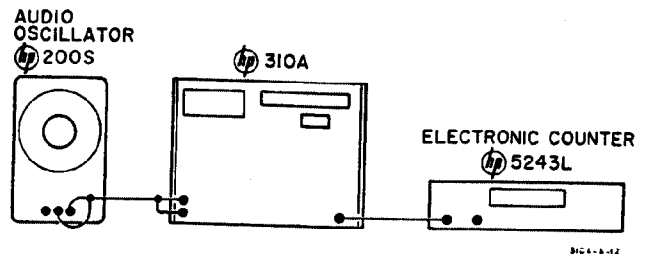

Figure 5-1. Frequency and Sensitivity Check
- a. Connect equipment as shown in Figure 5-1.
c. Disconnect INPUT and connect equipment as shown in Figure 5-1 (the audio oscillator is unnecessary).
- b. Connect instruments as shown in Figure 5-1.